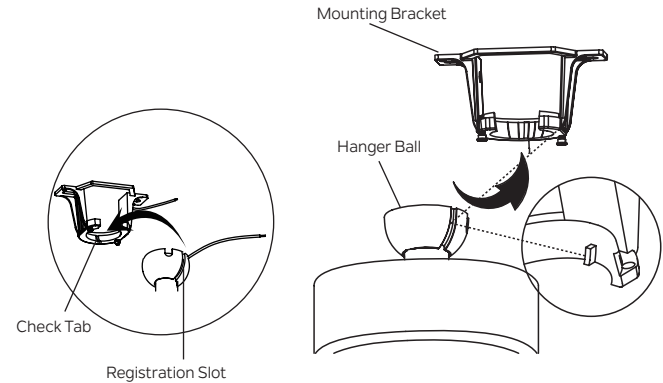

Fig. 12
Step 6. Now lift the motor assembly into position and place the hanger ball into the mounting bracket. Rotate until the “Check Tab” has dropped into the “Registration Slot” and seats firmly. (Fig. 12) The entire motor body should not rotate if this is done correctly.